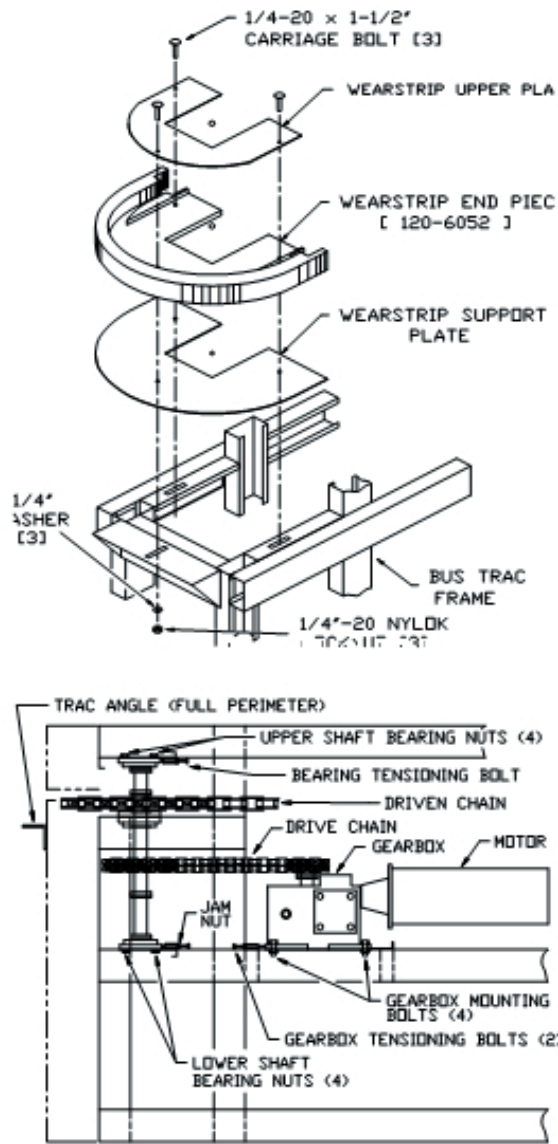

Fig. 1
- B. Interim tension can be maintained without removing any offset links. To do this, move the shafts outward as follows: [Refer to fig. 1]